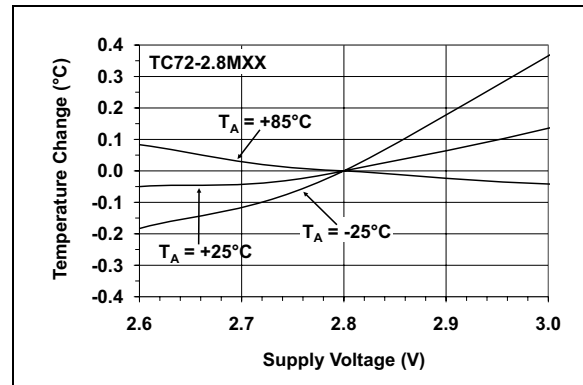
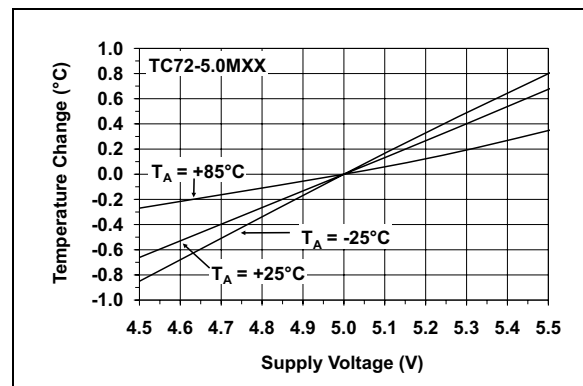

FIGURE 2-5: Temperature Accuracy vs. Supply Voltage (TC72-2.8MXX).
FIGURE 2-6: Temperature Accuracy vs. Supply Voltage (TC72-5.0MXX).
- Note 1:** The TC72-2.8MXX, TC72-3.3MXX and TC72-5.0MXX will operate from a supply voltage of 2.65V to 5.5V. However, the TC72-2.8MXX, TC72-3.3MXX and TC72-5.0MXX are tested and specified at the nominal operating voltages of 2.8V, 3.3V and 5.0V respectively. As V_{DD} varies from the nominal operating value, the accuracy may be degraded. Refer to Figure 2-5 and Figure 2-6.